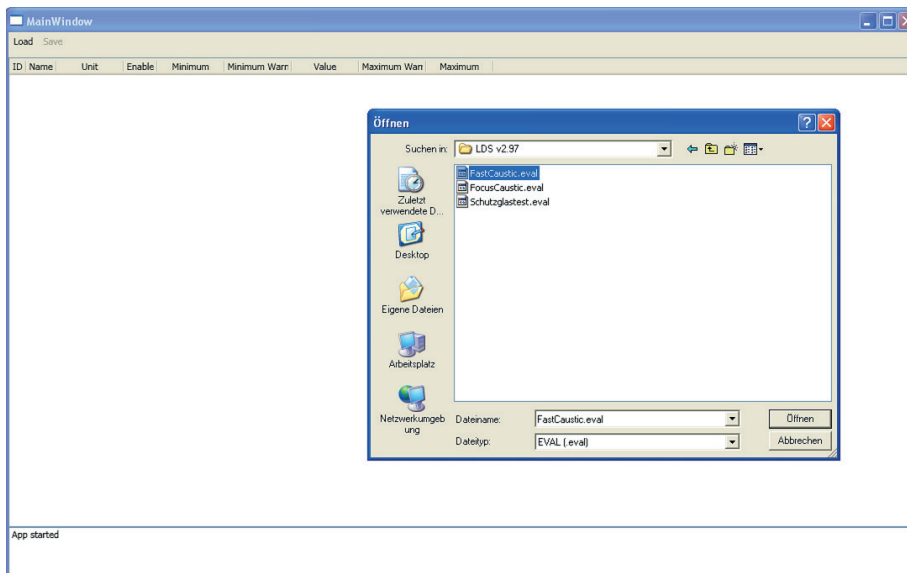

Fig. 21.30: File *FastCaustic.eval*
5. Load the file **FastCaustic.eval** as shown in Fig. 21.30.